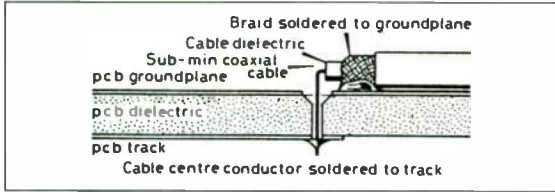

Fig 9.6. Right way of connecting coaxial cable directly to PCB
- Always use proper screened (coaxial) connections for signal frequencies. Figs 9.6 and 9.7 show some right and wrong ways to do this.
- Small PCB connectors such as type SMA, SMB or SMC (CONHEX) are soldered to the output(s) where shown. You need only one connector if you are only using output 1, but two if you intend to use both outputs. When you fit the board into the die-cast box, the connector(s) will need to protrude through a hole in the end wall of the box. Alternatively, a short length of small-diameter coaxial cable (eg RG174) can be soldered directly to the board (see Fig 9.6 for the right way to do it!) and taken to a BNC socket mounted on the end of the box. Do not try to use SO239 so-called 'UHF' connectors – they are too big and simply don't work properly at these frequencies!